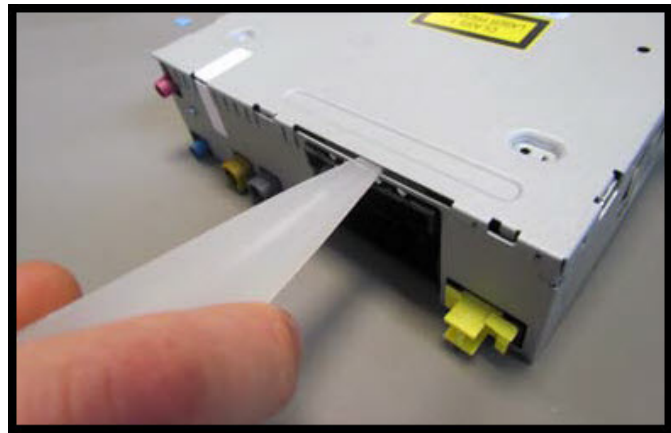

Figure 8. Pry to cover off using plastic trim wedge tool.
9. Using a flat head screw driver, your fingers or a plastic wedge trim tool, remove the top cover by prying it from the back of the cover at the location seen in Figure 8. If a flat head screw driver is used then touch the tool to the ESD mat to discharge the tool prior to touching the main unit.